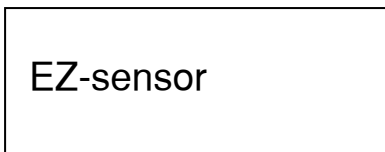

Fig. 3
- In some cases following reprogrammable options, it displays the reprogrammable sensor brands as **Fig. 3**.